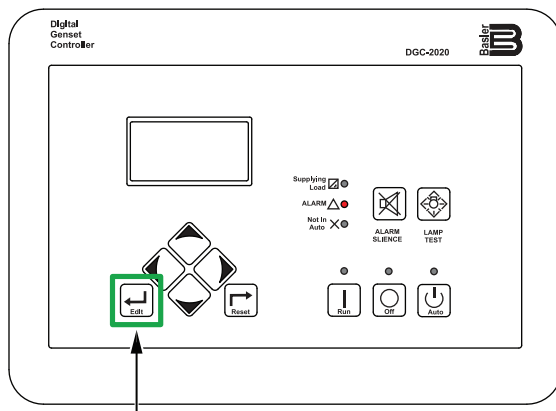

Figure 74. Digital Controller (Edit Button)
3. Press the **Edit button** (Figure 74).
5. After the Escape Mode request changes from OFF to ON, press the **Edit button** (Figure 74).